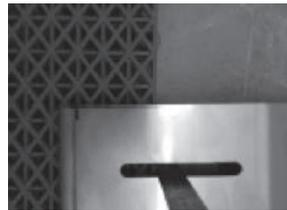

Figure 2
- Insert a rod in contact with the tile edge in the oblong hole (fig. 2),